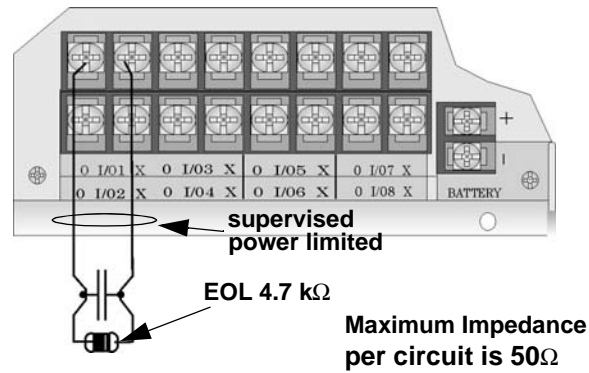

Figure 4-49 Class B Input Switches
1. Wire the Class B switch as shown in Figure 4-49.